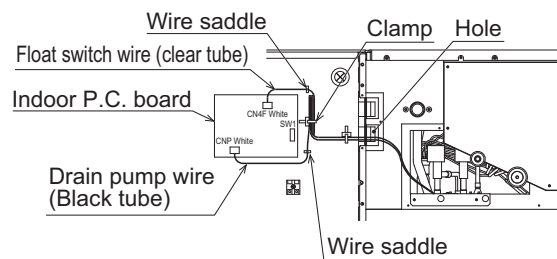

Fig.2
2. Remove the connector into CN4F and CNP on the control board shown in Fig. 2.